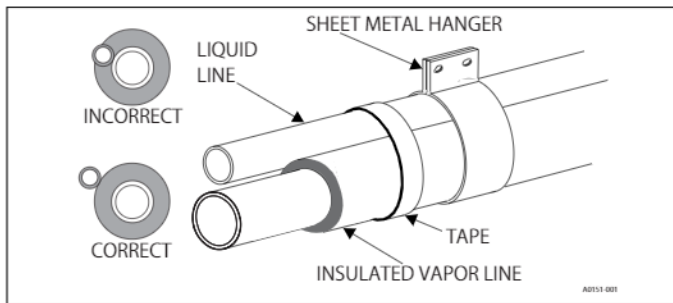

FIGURE 2: Tubing Hanger
5. Tape and suspend the refrigerant lines as shown in Figure 2. DO NOT allow tube metal-to-metal contact.